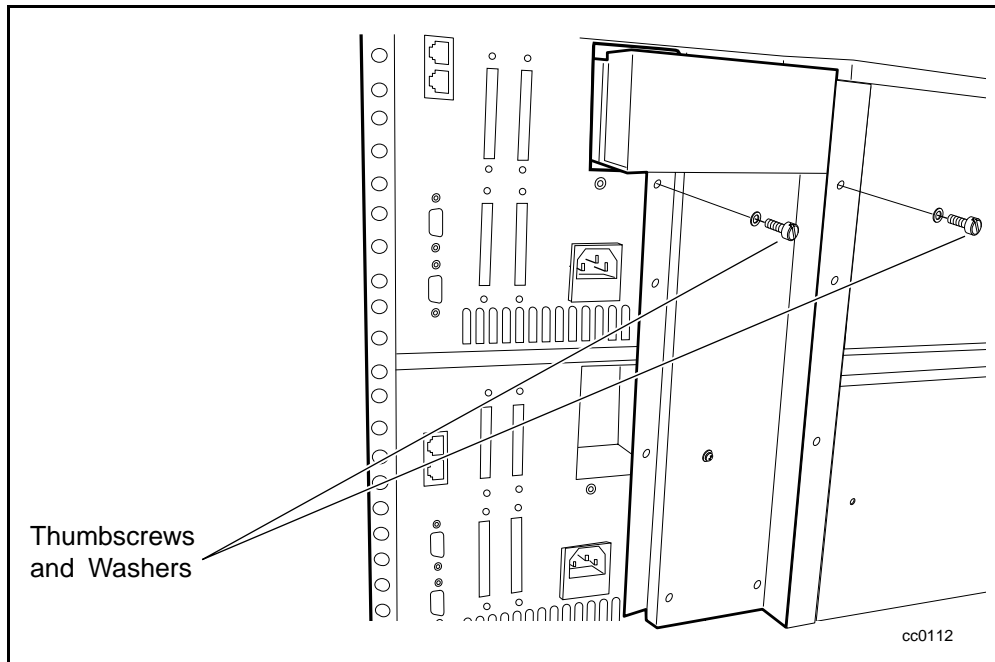

Figure 5-44. Securing the PTM to the master unit
2. Attach the PTM to the master (top) unit using two bullet-nose thumbscrews and washers through the top two holes in the extrusion (see Figure 5-44). Do not fully tighten the thumbscrews at this time.